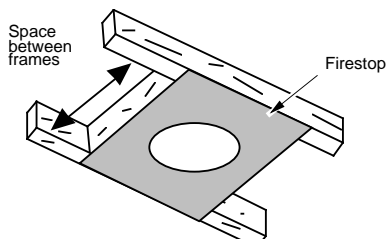

Figure 23
- Whenever the chimney penetrates a floor or ceiling a firestop is required on the bottom side of the floor joists (see Figure 23).